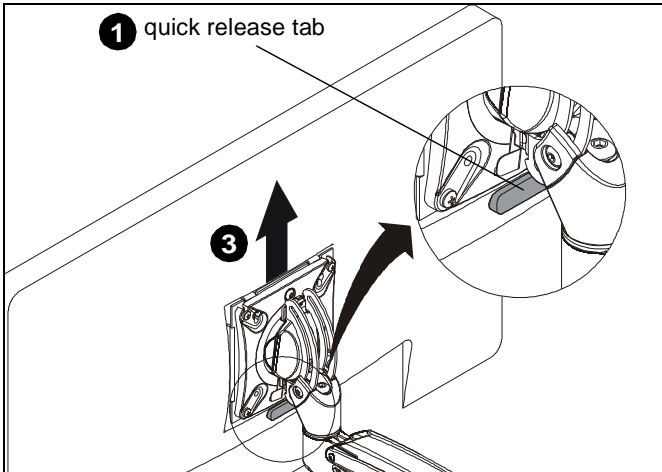
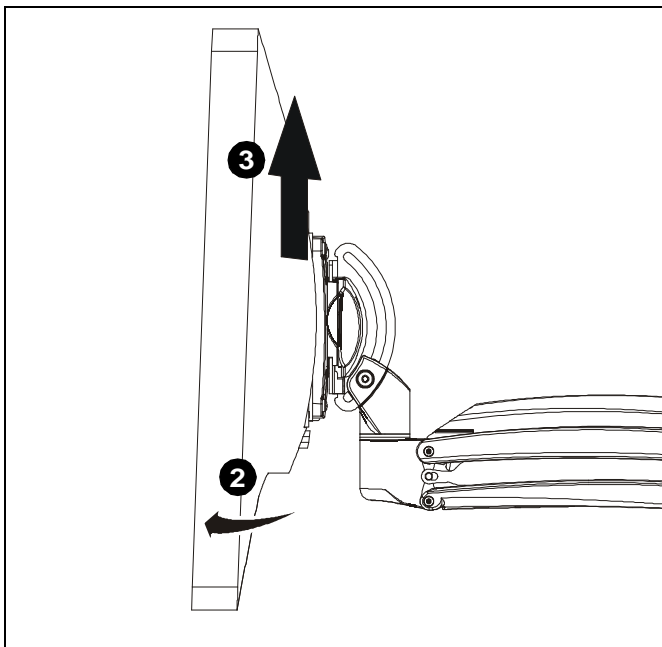

Figure 22
Figure 23
⚠ WARNING: Only remove display from mount when the display can be lifted up from the mount! **DO NOT** remove display unless the display is in the upright position! (See Figure 22)
1. Press quick release tab on back of display to release display from faceplate. (See Figure 22)
2. Pull bottom of display away from faceplate. (See Figure 23)
3. Lift display up from faceplate. (See Figure 22) and (See Figure 23)